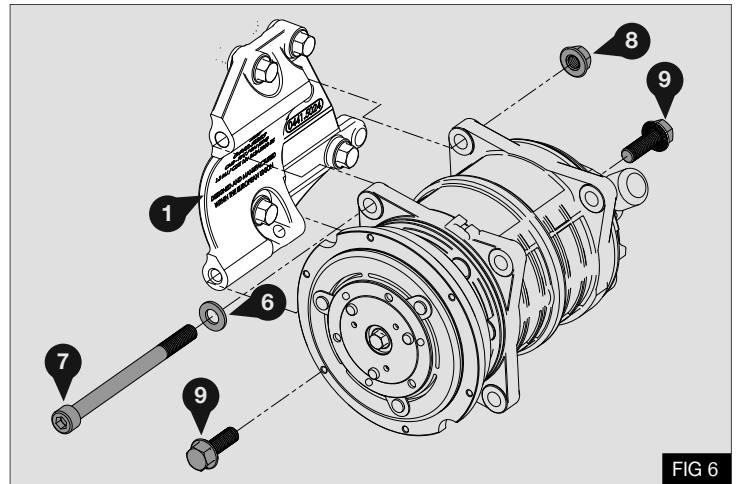

FIG 6
2. Fit the compressor to the bracket (1) using 1x M10 x 130 Cap head bolt (7), washer (6), with M10 nut (8) and 2x M10 x 30 bolts (9) - Fig 6